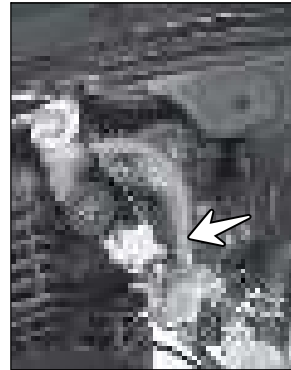

Fig. 2.4A
- Turn fuel cock knob to 'OFF' position and disconnect the fuel hose from the carburettor assembly. (Fig. 2.4A)